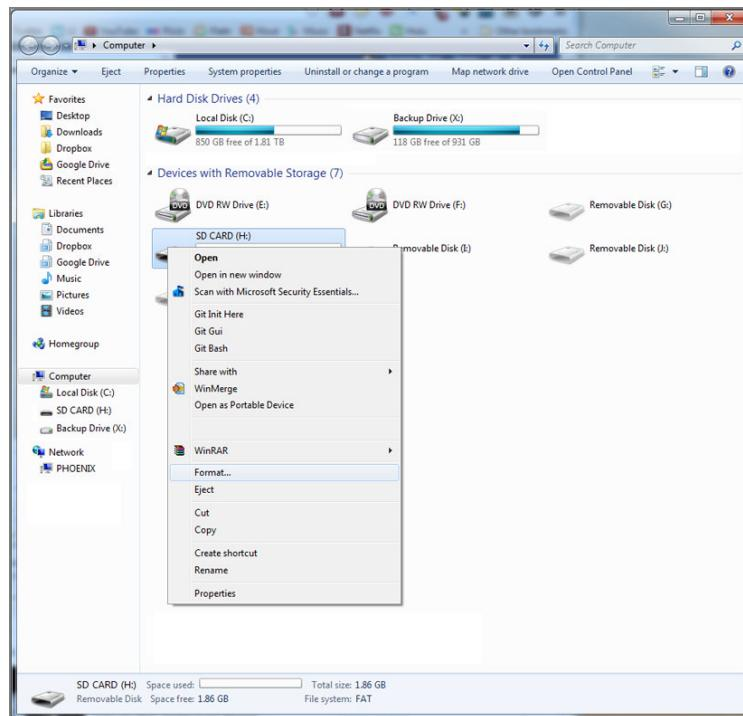

Figure 13-2: Format option selected
2. Right-click the card (it will probably have a different name), and select the Format option (see Figure 13-2). A window will appear with options for formatting the card.